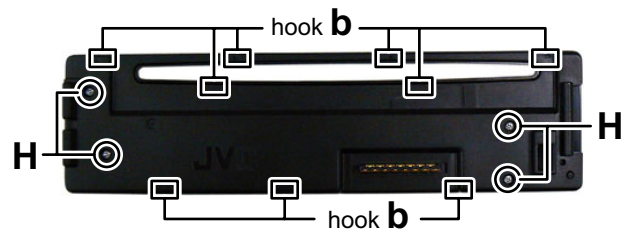

Fig.7
3.1.6 Removing the SWITCH BOARD assembly (See Fig.7)